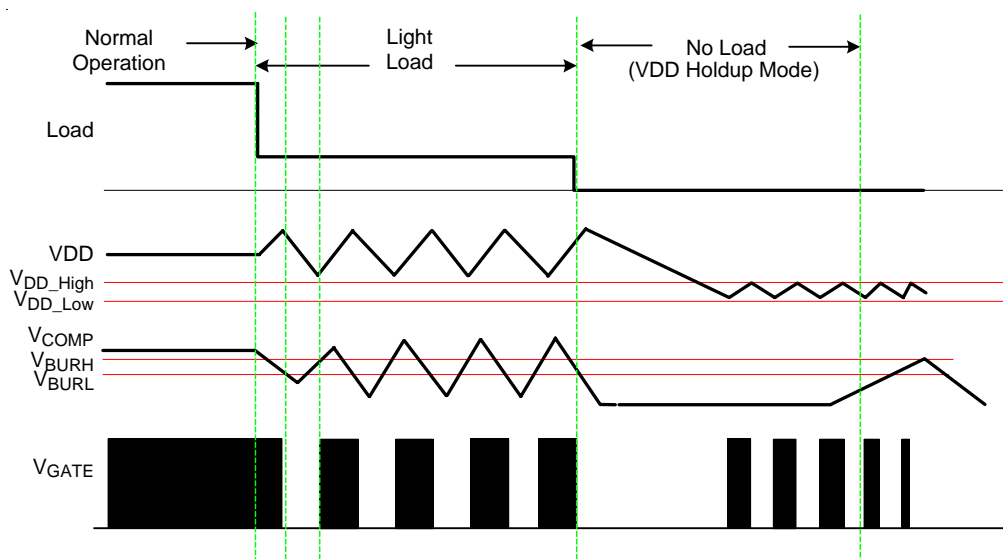

Figure 3. Burst Triple-Mode
To fulfill green mode requirement, there are 3 operation modes in R7731. Please also refer to Figure. 3 for details.
- **Burst Mode** : During light load, switching loss will dominate the power efficiency calculation. This mode is to cut switching loss. As shown in Figure 3, when the output load gets light, feedback signal drops and touches V_{burL} . Clock signal will be blanked and system ceases to switching. After V_{OUT} drops and feedback